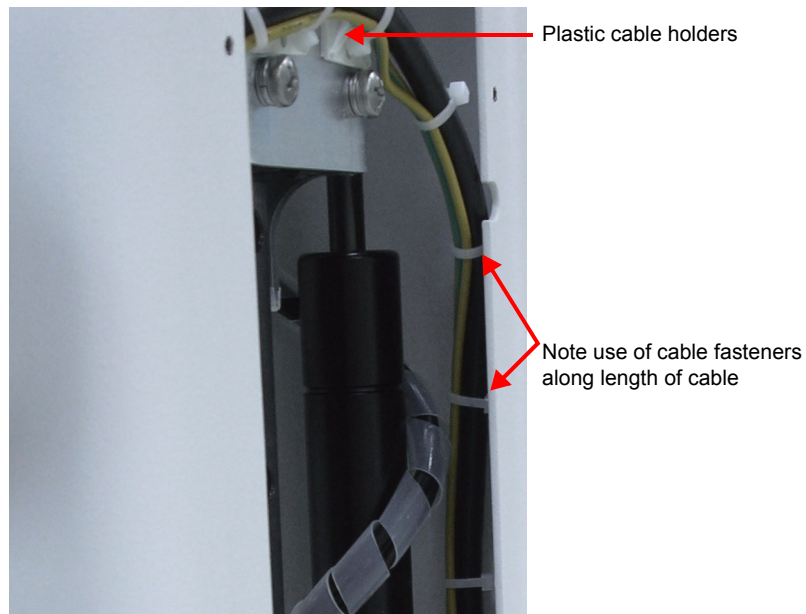

Figure 8-90 Routing of Cable Downwards inside Rear Upper Cover
- 6.) Continue routing the Peripheral AC Outlet cable towards the right hand side of the Rear Upper Cover and *downwards* - Figure 8-90.